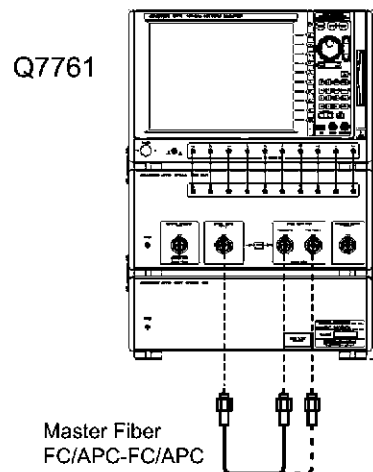

Figure 2-7 Connection-1 for Magnitude Characteristic Linearity (Dispersion Measurement Mode) Test
1. As shown in Figure 2-7, connect the “OPTICAL SIGNAL OUTPUT” of this instrument with “TEST PORT 1”, using the FC/APC-FC/APC optical fiber.